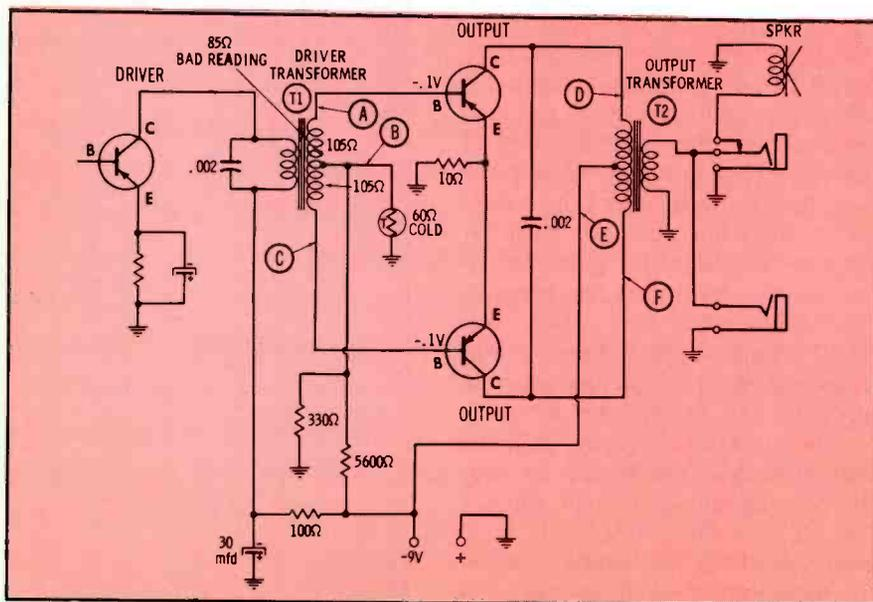

Fig. 1. Distortion is usually caused by a defect in audio circuit.
**Step 5:** Check each half of output transformer primary (from D to E and from F to E in Fig. 1).